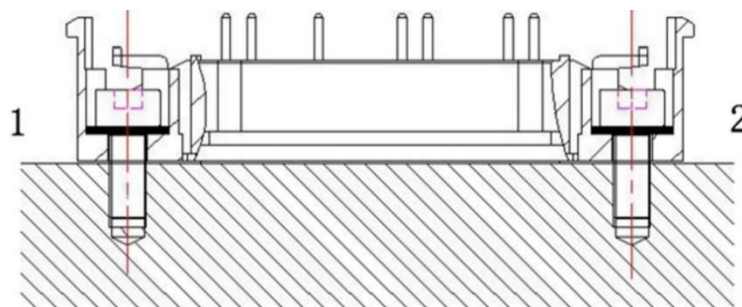

Figure 6: Fastening sequence.
- ① It is recommended to mount the module on the heat sink in the following sequence: 1→2, as shown in the [Figure 6].
- ② First tighten the screws slightly with a torque between 0.3 Nm and 0.5 Nm. Then tighten the screw firmly to the heat sink with a torque in the range of 2 Nm to 2.2 Nm.
- ③ The length of the screw is chosen according to the thread length into the heat sink. The recommended thread length into the heat sink should be min. 5 mm.
- ④ Screw with non-slip washer is required if the module is used under vibration situation.